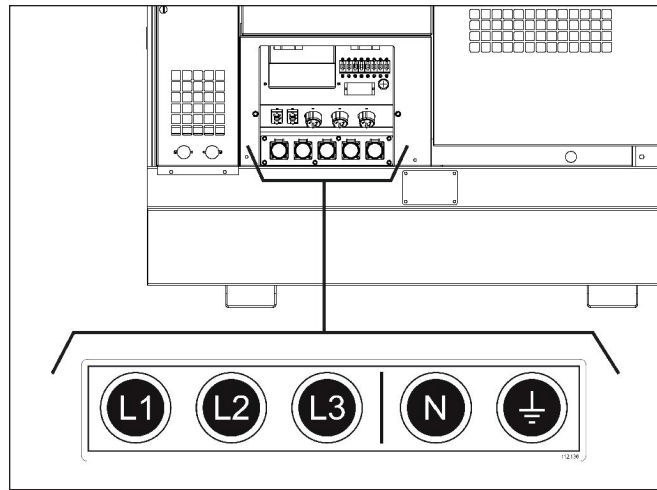

Figure B1
1. Connect the cam lock connectors from the load to the cam lock receptacles on the lower portion of the outlet panel on the unit. See Figure B1. Be sure to connect the load correctly. See **Connecting Loads**.